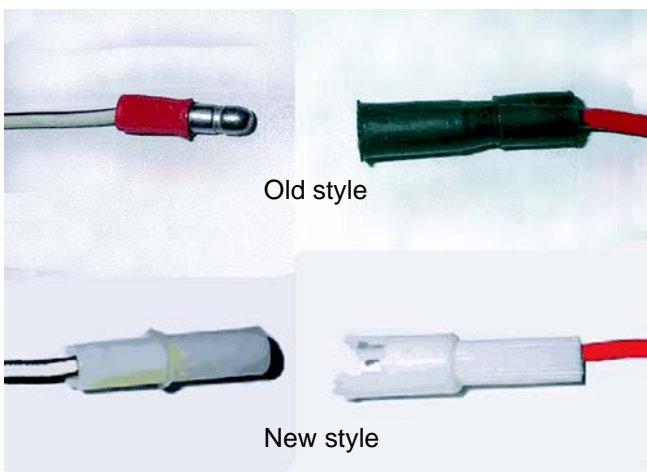

Figure 6.43
- NOTE:** Early production engines have a simple bullet connector between the stator and the afterfire solenoid (power lead). Current production engines have locking bullet connectors. The two connectors are not interchangeable. All new stators and afterfire solenoids sold as service parts will have the new connectors. See Figure 6.43.